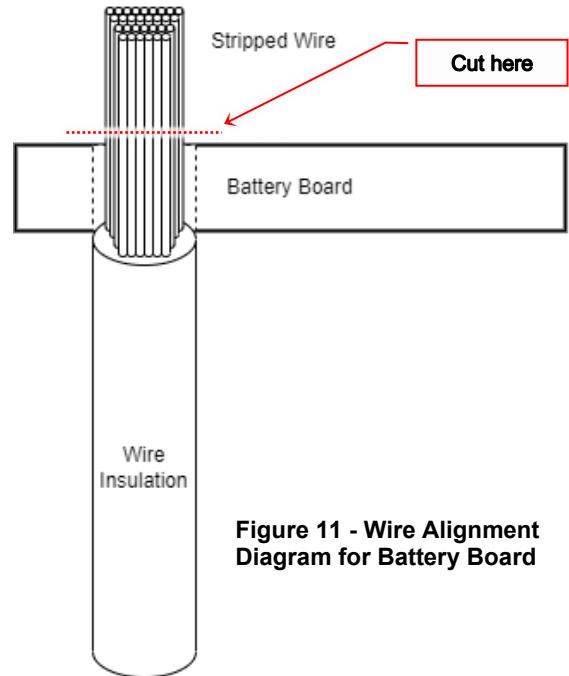

Figure 11 - Wire Alignment Diagram for Battery Board
- 9.2.4.2 Start with the red wire; With the insulation against the bottom of the battery board as seen in Figure 11, use diagonal wire cutters to remove excess stripped wire so that it is flush with the battery board.